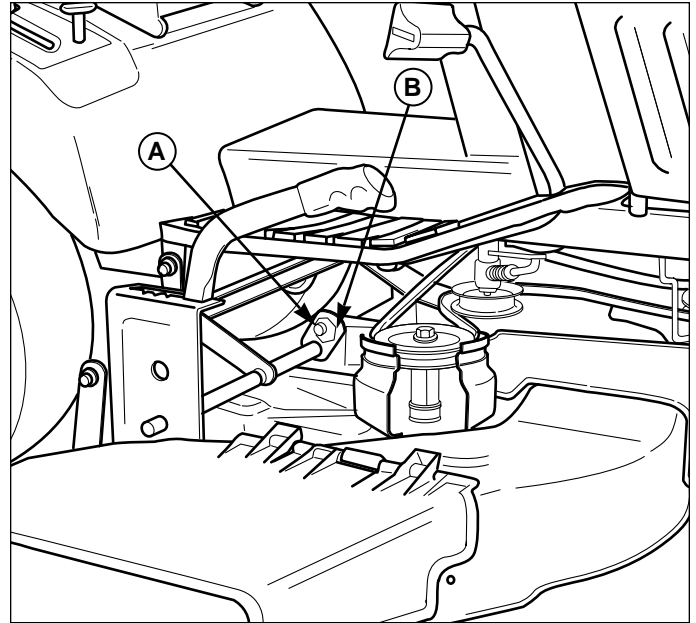

Figure 36. Front-to-Back Adjustment Nut
3. See Figure 36. Loosen the outside nut (A) and turn the eccentric nut (B) to raise or lower the rear of the deck. When the mower deck is level, hold the eccentric (B) while tightening the outside nut (A).